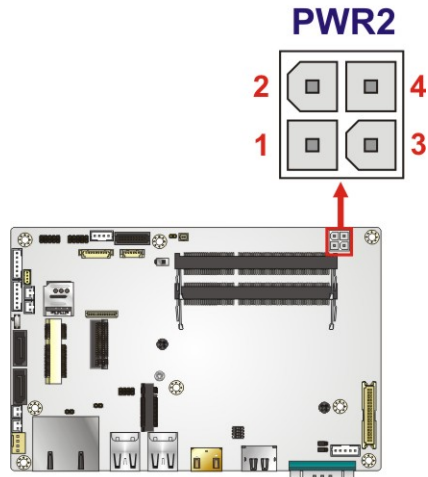

Figure 3-15: +12V DC-IN Power Connector Location
- CN Location:** See **Figure 3-15**